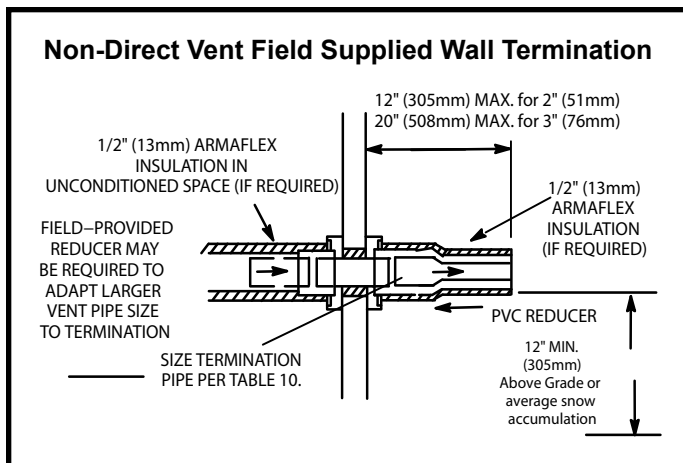

Figure 41
2. On field supplied terminations for side wall exit, exhaust piping may extend a maximum of 12 inches (305 mm) for 2" PVC and 20" (508 mm) for 3" PVC beyond the outside wall. See Figure 41.